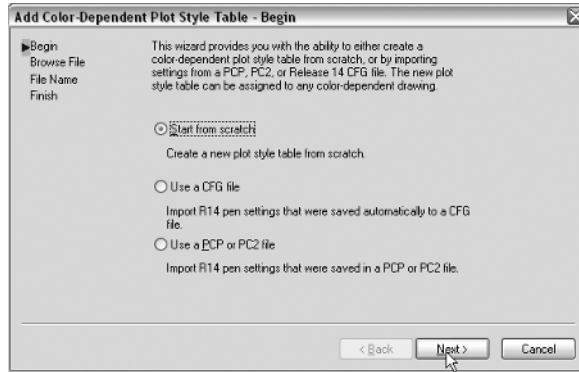

Figure 1.10 Creating a color-dependent plot style table
4. Make sure the Start From Scratch radio button is selected on the Begin screen and click Next (Figure 1.10).